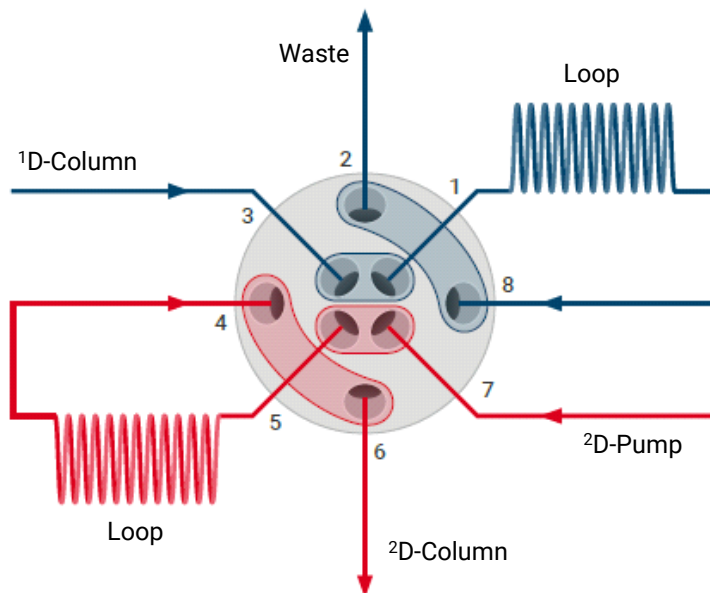

Figure 30: Schematic representation of the Standard 2D-LC Valve (G4236A) in concurrent flow.
- Concurrent direction for the Standard 2D-LC Valve (G4236A) with Single Heart Cut Configuration, see Figure 30 on page 63.